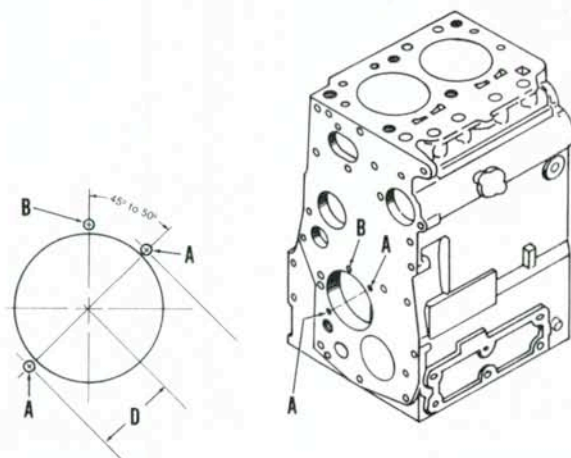

Fig. 90—Refer to text for modifying early 1100 and 1300 cylinder blocks for installation of two pins to retain front thrust washer. Refer also to Fig. 91.
The cylinder block of early 1100 and 1300 models uses one pin to hold front thrust washer in position while late production 1100 and 1300 models use two pins. The early cylinder blocks can be modified to accommodate two pins if desired. To modify early cylinder block, drill two 4 mm (5/32 inch) diameter holes as indicated in Fig. 90. Do not attempt to use existing hole (B), but drill two new holes on 45° angle as indicated at (A) in the drawing. Holes (A) should be 42 mm (1.653 inches) from center of bearing bore as indicated at (D). The spring pins (P—Fig. 91) should be installed 1 mm (0.040 inch) below thrust surface of washer (11).